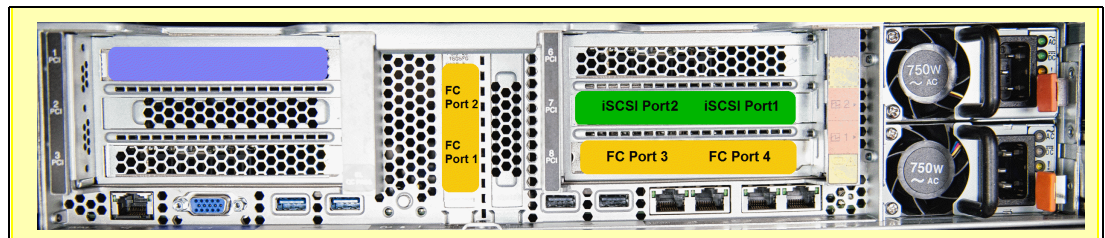

Figure 5 Fibre Channel with iSCSI option
Figure 5 shows the FC option of the grid controller, which includes the following components:
- ▶ One dual port 10 GbE controller in the middle right PCI slot (highlighted in green in Figure 5) for iSCSI connectivity.
- ▶ One dual port FC-NVMe adapter in the middle and another FC-NVMe adapter at the lower right (highlighted in yellow in Figure 5).
The blue rectangle in Figure 5 highlights the InfiniBand adapter that is used for the internal backend communication only. The InfiniBand card cannot be used for host or mirroring access.